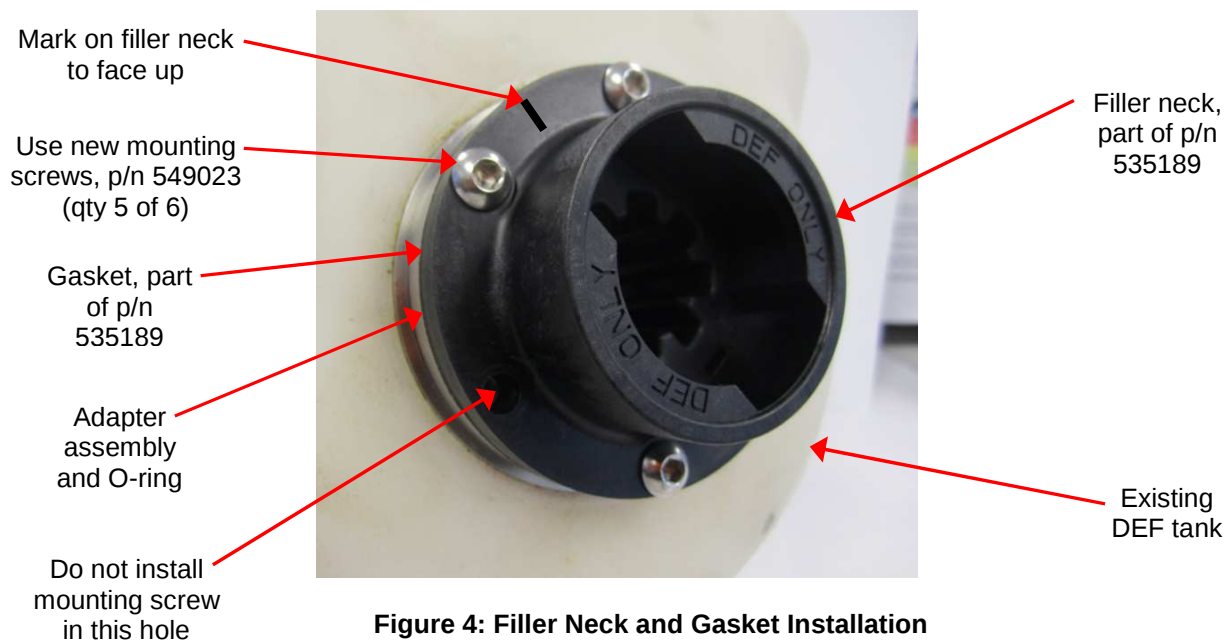

Figure 4: Filler Neck and Gasket Installation
8. **Discard the screws supplied with Adapter Assembly p/n 535189.** Install new filler neck and supplied gasket using new screws p/n 549023. Mark on the filler neck should be installed toward top. Install using 5 of the 6 new screws, torque the screws to 40 in*lbs in alternating order. Leave out the screw for attaching cap Lanyard as shown in Figure 4.